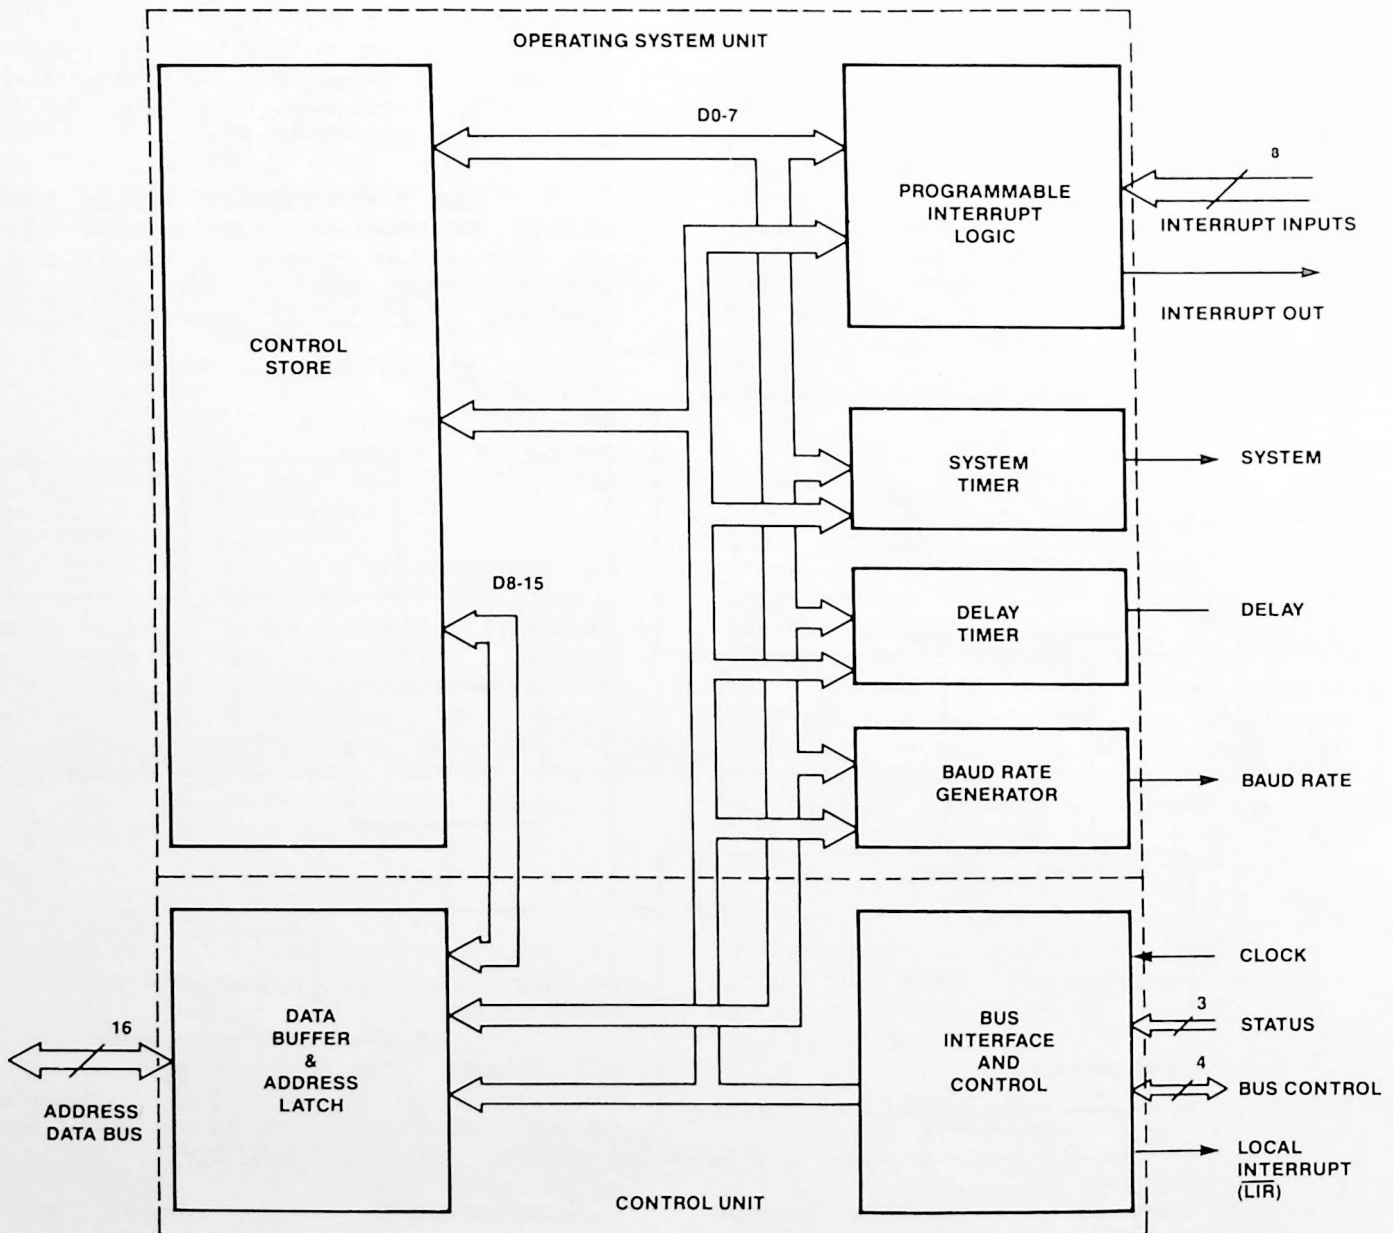

Figure 2. CP/M* Chip Internal Block Diagram
A. Hardware. Figure 2 is a functional diagram of the CP/M chip itself. The 16K Bytes of program storage represent the largest commercially-available ROM. Intel has combined this leading-edge technology with the random-logic technology required by the timers and interrupt controller. The timers are compatible with the standard 8254 timer. The interrupt controller, with its eight programmable interrupt inputs and one interrupt output, is compatible with the 8259A Programmable Interrupt Controller. In fact, external slave 8259A interrupt controllers can be cascaded with the CP/M chip to expand the total number of interrupts to 57.